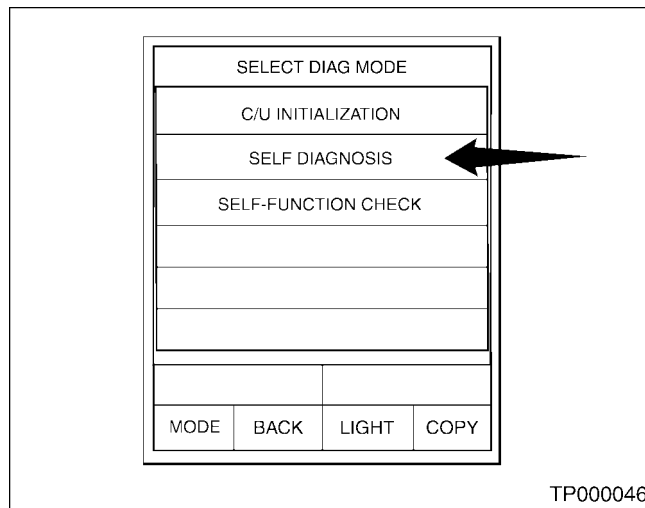

Figure 5
5. Select "SELF DIAGNOSIS" (see Figure 5).